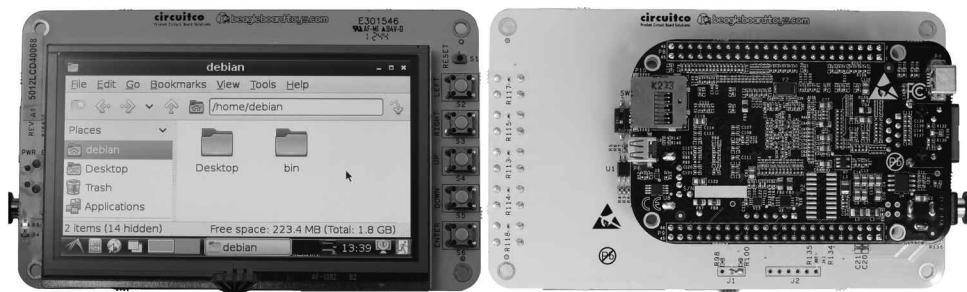

Figure 1-9: The LCD4 cape (top and bottom view)
Some capes use a significant number of pins. For example, you will look at the LCD4 cape in Chapter 11. It uses the P8 header pins 27 through 46 and some of the analog inputs for its buttons and resistive touch interface. If you are using the eMMC for booting the BBB, then very few pins remain for GPIO use. In addition, the LCD cape does not carry forward the pin headers. Figure 1-9 shows two views of this cape when connected to the BBB, running the standard BBB Debian Linux distribution.
- The LCD capes are available in different sizes: 7" (800×480), 4" (480×272), and 3" (320×240), with the 4" version captured in Figure 1-9. They have resistive touch screens, meaning you use a stylus (or fingernail) to interact with the screens. This is different than the capacitive touch screens on recent phones/tablets.